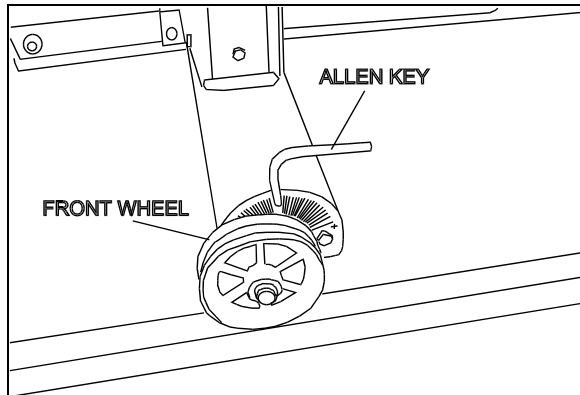

FIGURE 31: ADJUSTING HOOPY 100 LEVEL
6. Using an Allen key on the front wheel, level Hoopy 100 aligner until spirit level bubble is centered (Fig. 31 & 32).